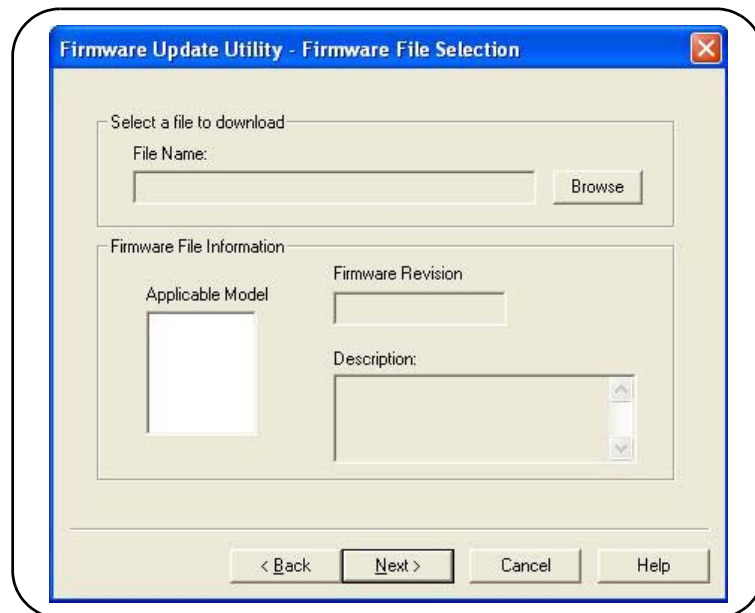

Figure 3-10. Firmware Update Utility File Selection Window.
1. From the installation directory or 'start' menu, start the utility and select 'Next' until the window shown in Figure 3-10 appears.